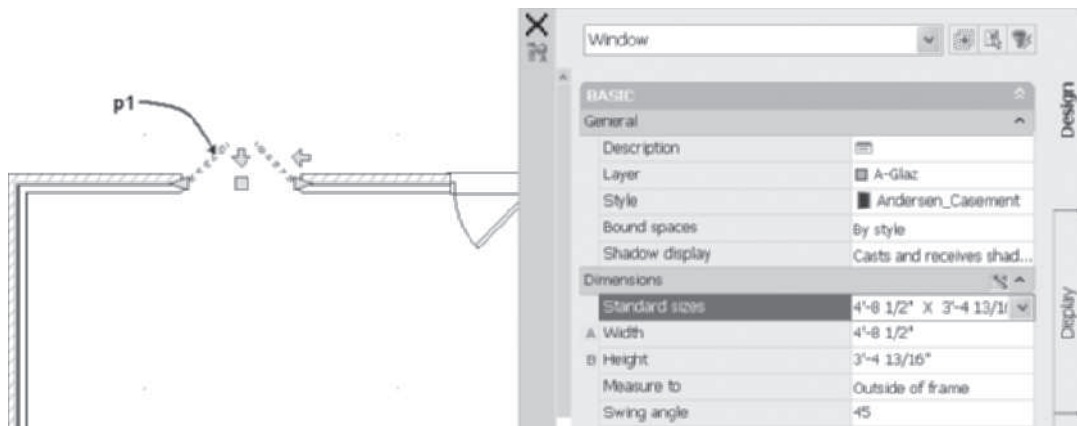

FIGURE 5.71 Editing existing windows
22. Select the casement window at **p1** as shown in Figure 5.71. Click in the **Style** field of the **Properties** palette, select **Andersen_Casement**, and select the **4'-8 1/2" × 3'-4 13/16" [1350 × 1050]** standard size.